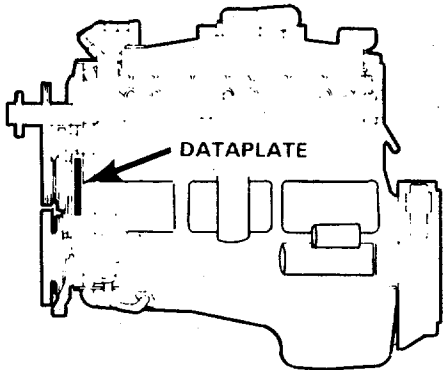

FIGURE 1-2. Engine Dataplate Location.
a. Engine Dataplate. The engine dataplate (FIGURE 1-2) shows specific information about your engine. The engine serial number and the Control Parts List (CPL) provide information for ordering parts and service needs.